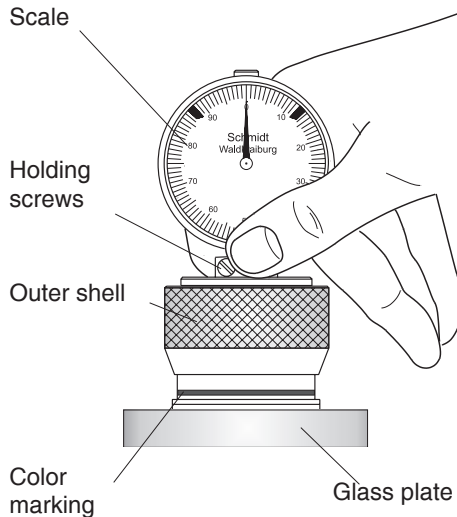

fig. 3.3
- Press the durometer down on a glass plate (fig. 3.3).